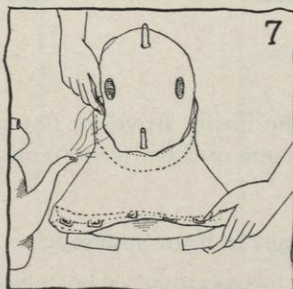

FIG. 7.
- Steam all of the fullness out by pulling and stretching the felt into the headsize (see Figure 7). Steam it so that it lies flat and smooth on the block.